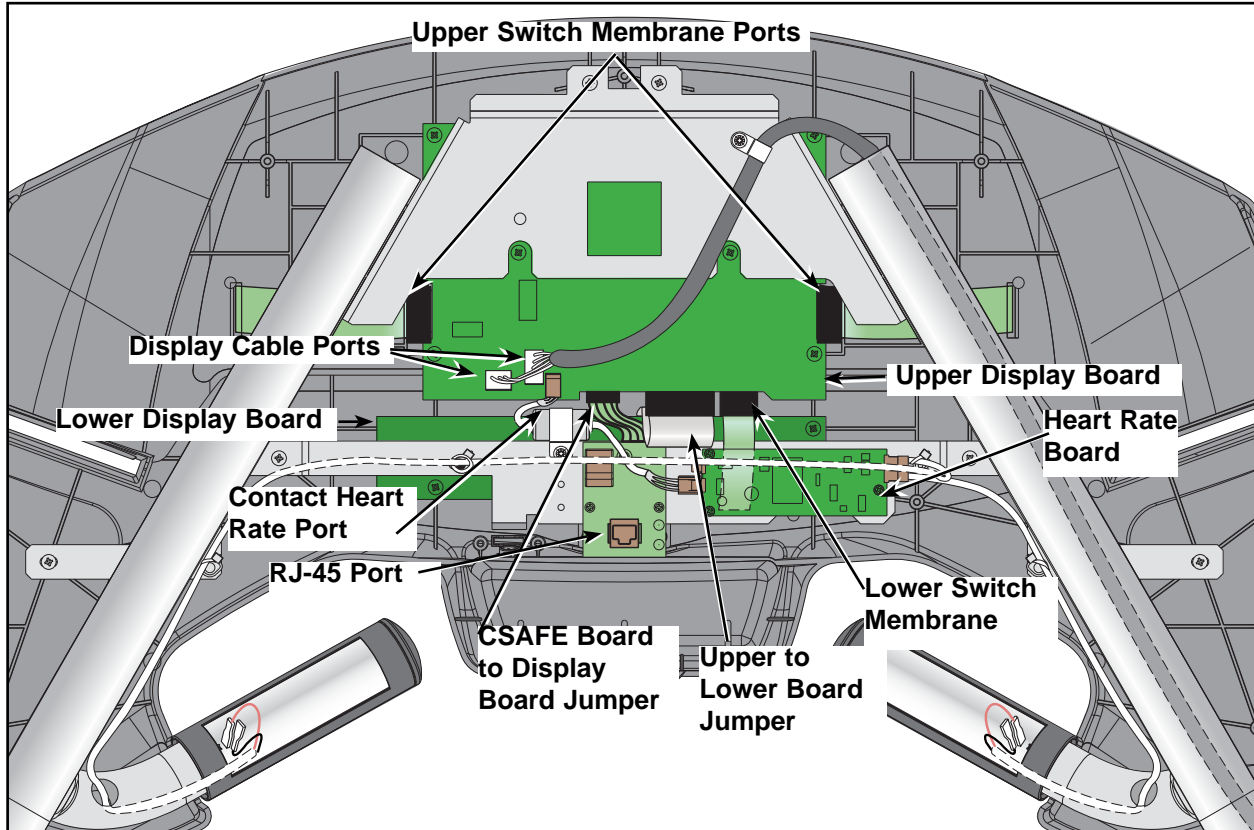

Figure 23
- A.** Disconnect these cables from the display board: the display cable (2 connectors), the two upper switch membranes, the lower switch membrane, the contact heart rate cable, the CSAFE board to display board jumper and the upper to lower board jumper. See Figure 23.
- A.** Connect these cables into the display board: the display cable (2 connectors), the two upper switch membranes, the lower switch membrane, the contact heart rate cable, the CSAFE board to display board jumper and the upper to lower board jumper. See Figure 23.
- A. Pull the CSAFE connector out of the display board. See Figure 23.
- A. Gently push the CSAFE connector into its port on the display board. See Figure 23.